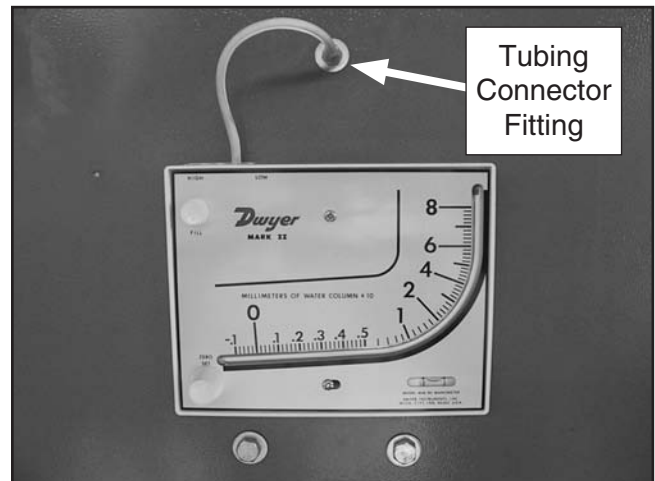

Figure 16. Tubing installed onto spray booth chamber.
3. Install a tubing connector fitting in the larger pre-drilled hole on the side of the booth near the manometer as shown in **Figure 16**.
4. Run tubing from the low pressure side (-) of the manometer to the tubing connector fitting as shown in **Figure 16**.